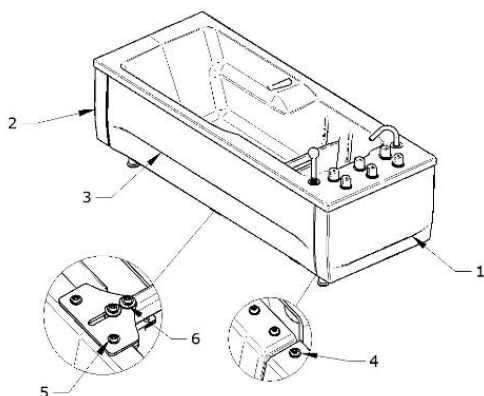

Figure 9 – BALMED STANDARD 270 | bathtub view with cover elements
1. Using an allen key (not supplied), unscrew the allen socket screw in item 4 in figure 9. There are 2 such screws on each side of the bathtub.
1. Using an allen key, unscrew the 6 screws in item 5 fig.9 in the three brackets.
2. Using an allen key, loosen the screws in item 6 fig.9.